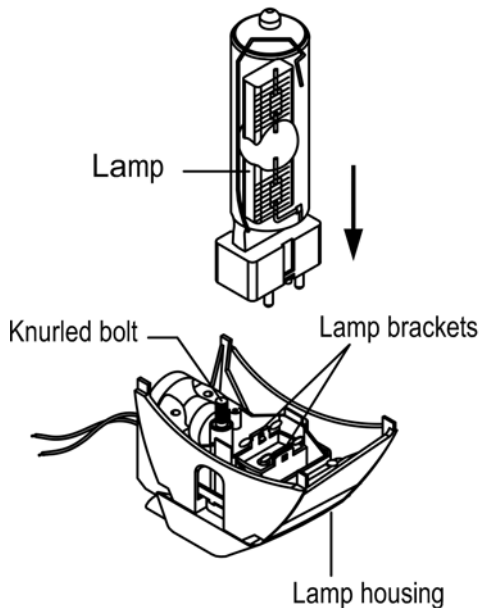

Fig. 3
4. Line up the flat sides of the lamp base with the brackets on either side of the socket (Fig. 3).